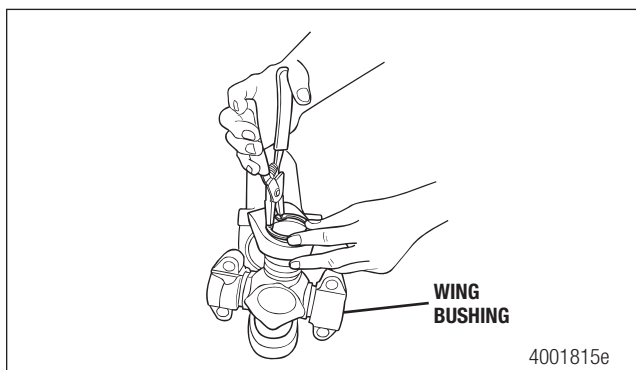

Figure 5.58
6. Use snap ring pliers to install the snap ring into the snap ring groove. Figure 5.58. Fully seat the snap ring.